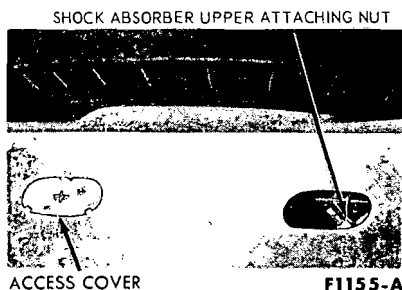

FIG. 14—Rear Shock Absorber Upper Mounting
2. Fold back the floor mat and remove the shock absorber access cover from the floor pan. Remove the nut, outer washer, and rubber bushing that retain the shock absorber to the upper mounting in the floor pan (Fig. 14).
4. From the luggage compartment, install the bushing outer washer and attaching nut to the upper mounting stud (Fig. 14). Torque to specification. On a station wagon, replace the floor bed panel (14 screws).